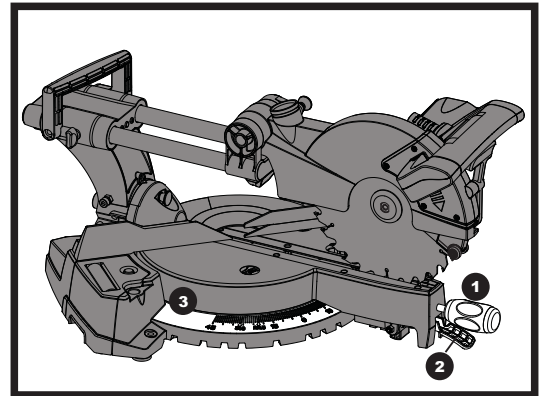

Fig 30
- 1) When a mitre cut is required, unlock the mitre table by turning the mitre handle (1) counterclockwise.
- 2) While holding the mitre handle, lift up on the positive stop locking lever (2).
- 4) When the table is in the desired position, as shown on the mitre scale (3), release the positive stop locking lever and tighten the mitre handle. The table is now locked at the desired angle. Positive stops are provided at 0°, 15°, 22.5°, 31.6° and 45°. (See fig. 30)